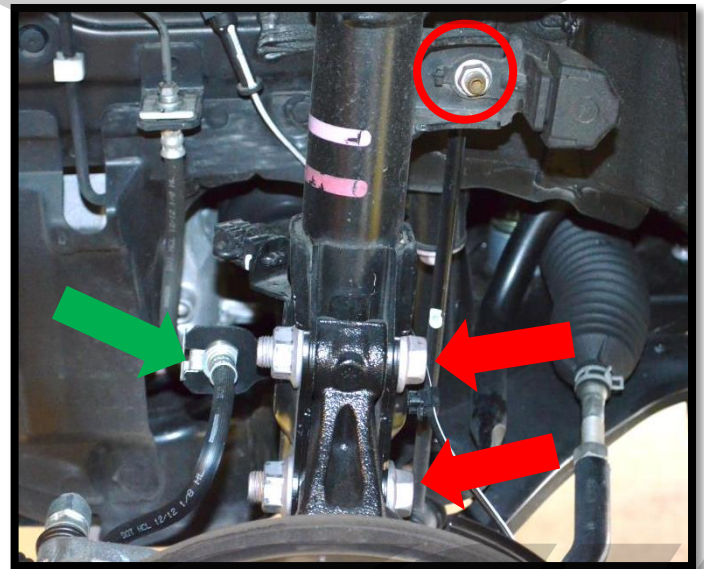

Figure 3i
- j) Pull the spindle up into the strut. Insert the 19mm bolts and nuts. Torque to 75ft-lbs (Figure 3i).
- k) Re-install the sway bar end link. Torque the 14mm nut to 25ft-lbs (Figure 3i).
- l) Place the brake line back into the strut bracket and replace the clip (Figure 3i).
j) Pull the spindle up into the strut and line up the holes. Insert the 17mm bolts and install the 19mm nuts. Torque to 75ft-lbs (red arrows in Figure 3i).
k) Re-install the sway bar end link. Thread on the 14mm nut and torque to 25ft-lbs (Figure 3i).
l) Place the brake line back into the strut bracket and replace the clip (green arrow in Figure 3i).